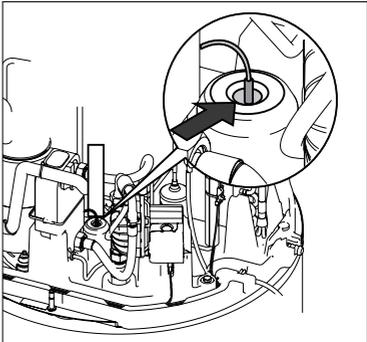
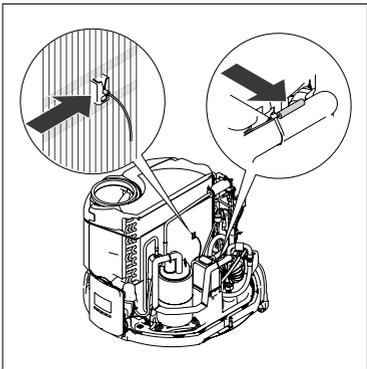

Fig. 2
Fig. 3
- Assure correct positioning of all temperature sensors, see *Figure 2* and *Figure 3*.